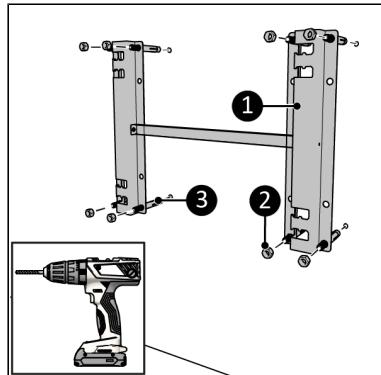

Figure 35.
1. Place the bracket against the wall, with the bracket openings at the left and mark the eight holes (Figure 35).
3. Place the anchor bolts (Figure 35, pos. 3).
4. Tighten the wall bracket (Figure 35, pos. 1) to the wall with the eight nuts (Figure 35, pos. 2).